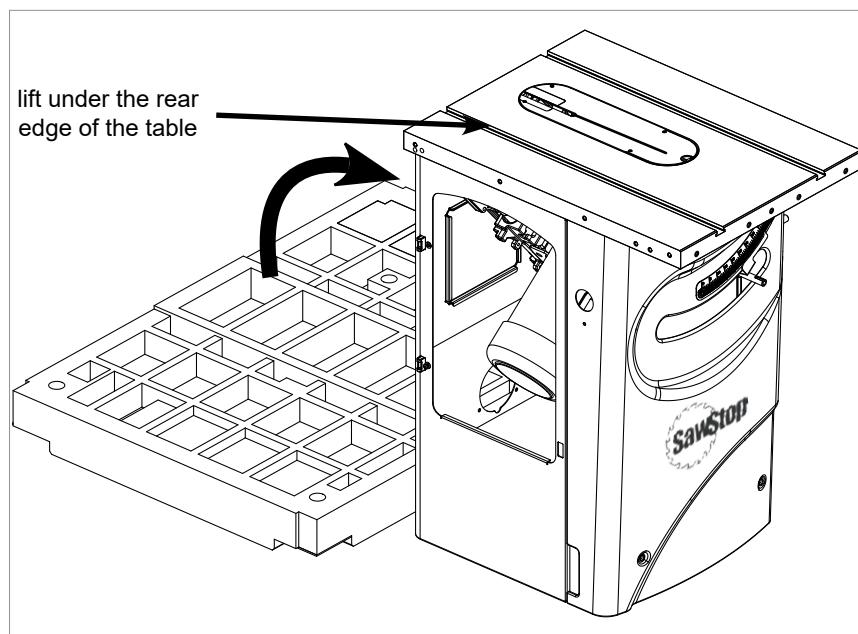

Fig. 4
- With the help of another person, carefully tip the saw to the upright position by lifting under the rear edge of the cast iron table (see Fig. 4). Lift the saw slowly so that it slides off the Styrofoam and onto the floor without damaging the cabinet.